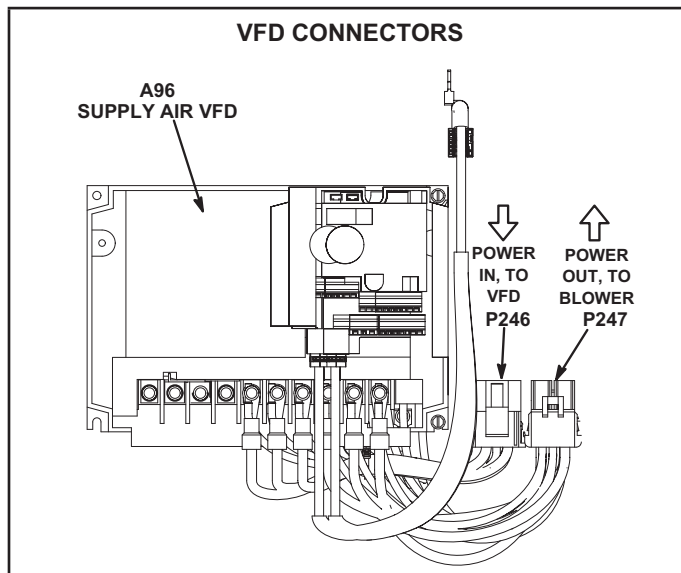

FIGURE 41
- 2 - Locate P246 and P247 connectors near the VFD. See FIGURE 41.